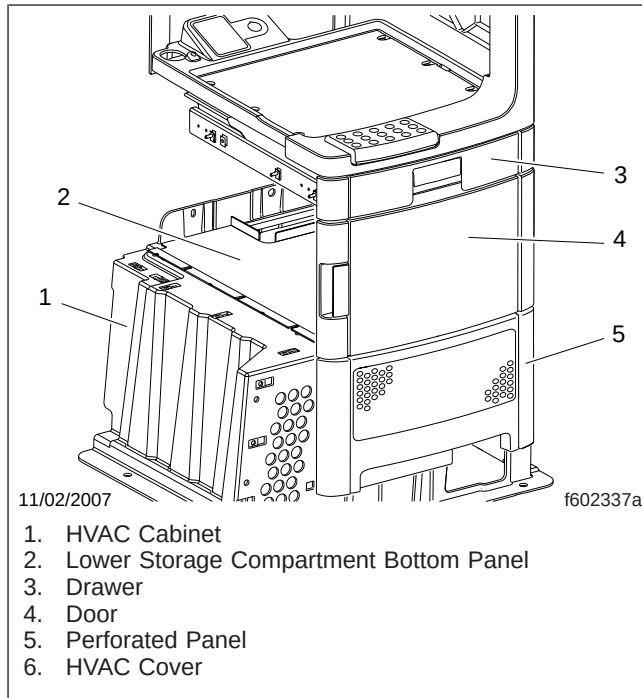

Fig. 1, Sleeper Cabinet Stack
2. Open the lower storage compartment door, and remove the panel on the bottom. See **Fig. 1**.